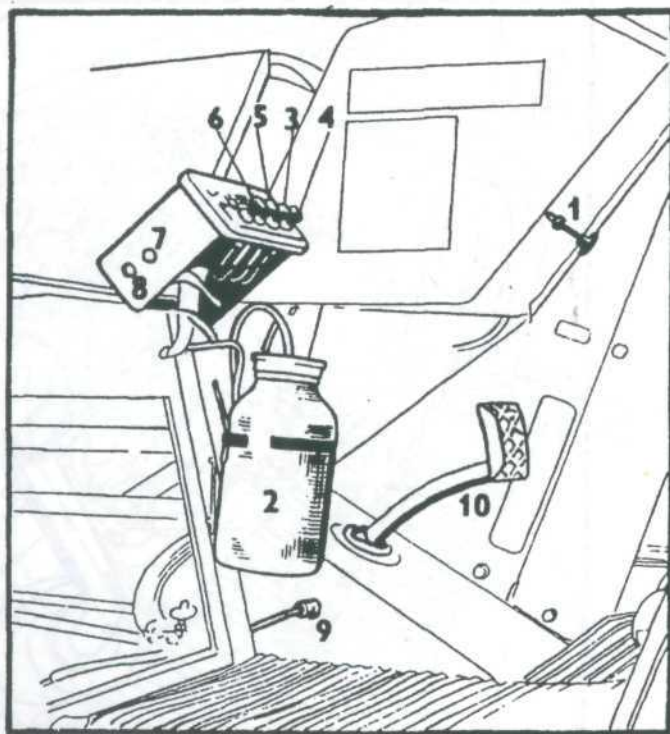

Fig. 3
- Front windscreen wiper push button (Fig. 3/1)
- Front windscreen wiper tank (Fig. 3/2) — fill with anti-freeze in winter)
- Rear windscreen wiper switch (Fig. 3/3)
- Front windscreen wiper switch (Fig. 3/4)
- Cab ceiling lamp switch (Fig. 3/5)
- Heating system and cab ventilation switch (Fig. 3/6)
- Remote control of hot water heating system water tap (Fig. 3/7). If the heating system is in operation, the tie rod shall be in its slid-in position.
- Flap valve of the delivery branch of the heating system fan. When heating the tie rod shall be in its slid-in position (Fig. 3/8).
- Tumbler switch (Fig. 3/9) disconnects electric power supply from the storage battery to the switch box. Electric power disconnecting is carried out by turning the switch lever to the right (upwards). The lever can be taken out.
- Clutch pedal (Fig. 3/10)